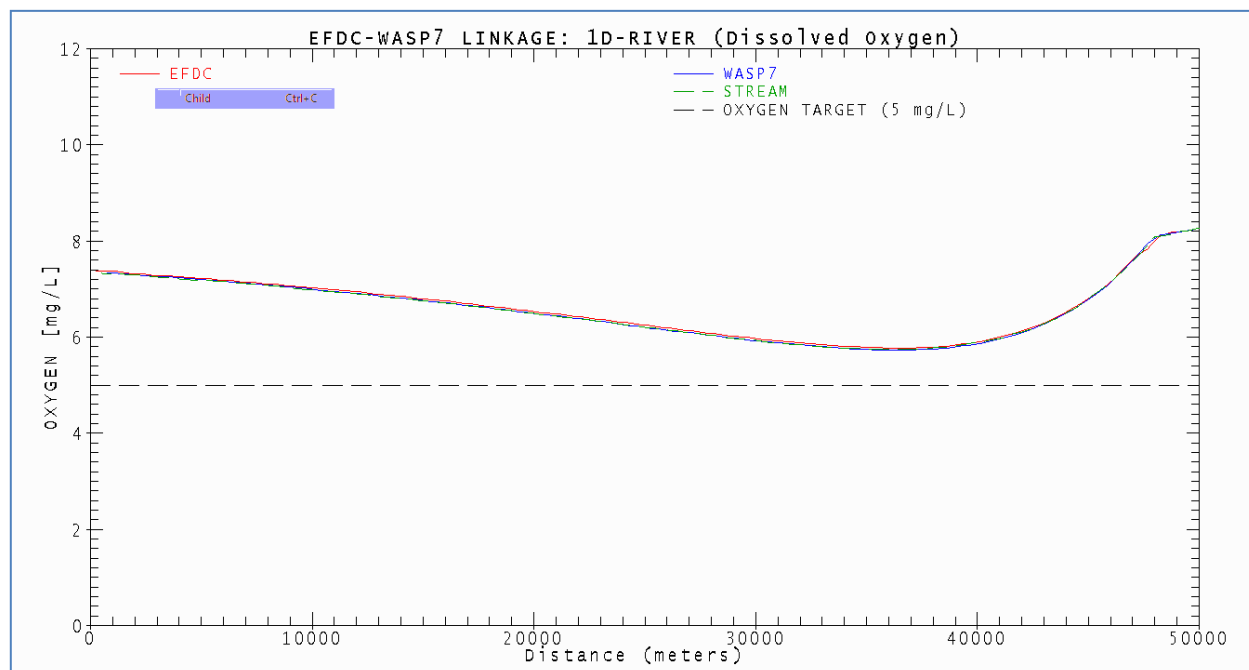

Figure 1 River 1D dissolved oxygen (D.O.) for the analytical solution compared to the EFDC\_DSI and WASP computed results.
3. For a similarly configured water quality model, the EFDC\_DSI results are nearly identical to WASP. See Figure 1.